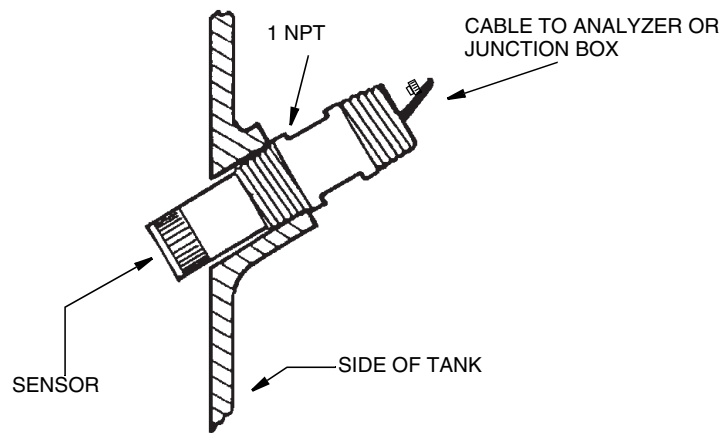
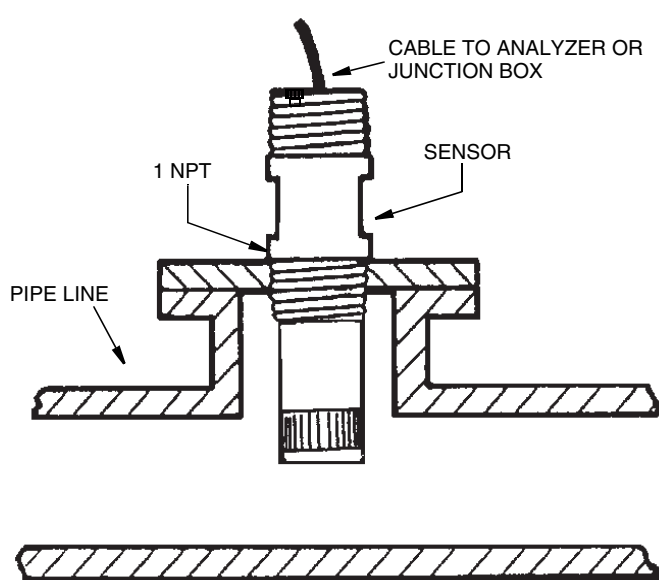

Figure 9. Side of Tank/Vessel Mounting
Figure 10. Pipe Mounting
2. The maximum torque specification for the 871DO-C Sensor (see Figure 9 and Figure 10) is 31 N·m (23 lb·ft).